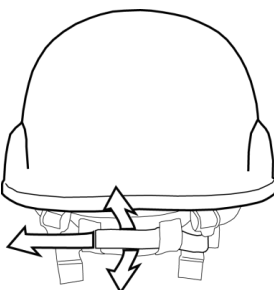

Figure 8. Tighten/Adjust Nape Pad (Universal H-Back Retention Systems).
- a. For helmets with a universal H-back retention system, slide nape pad (Figure 8) up and down along the rear legs of the chinstrap as necessary.